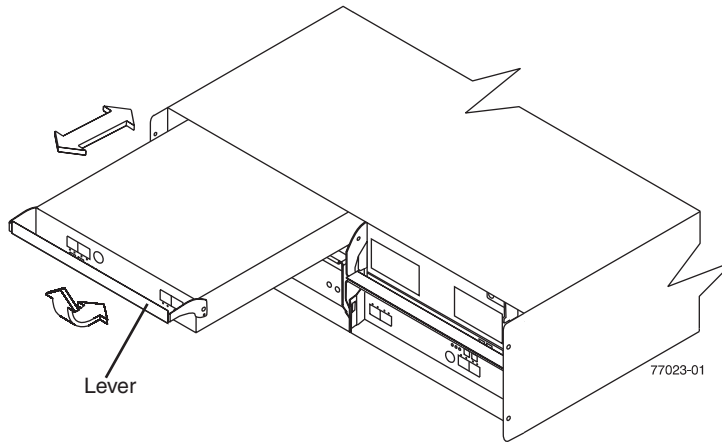

Figure 13. Removing and replacing an Environmental Services Monitor (ESM)
2. Slowly pull the lever away from the chassis to remove the ESM from the bay, as shown in Figure 13 on page 28.